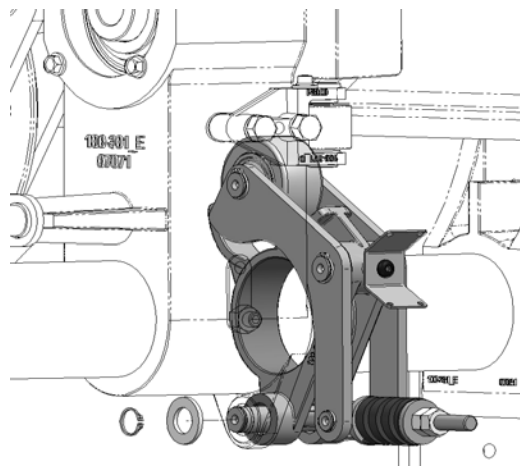

Figure 10 – Withdrawing the Reaction Roller
- Withdraw the reaction roller assembly from the wheel support casting (see Figure 10).